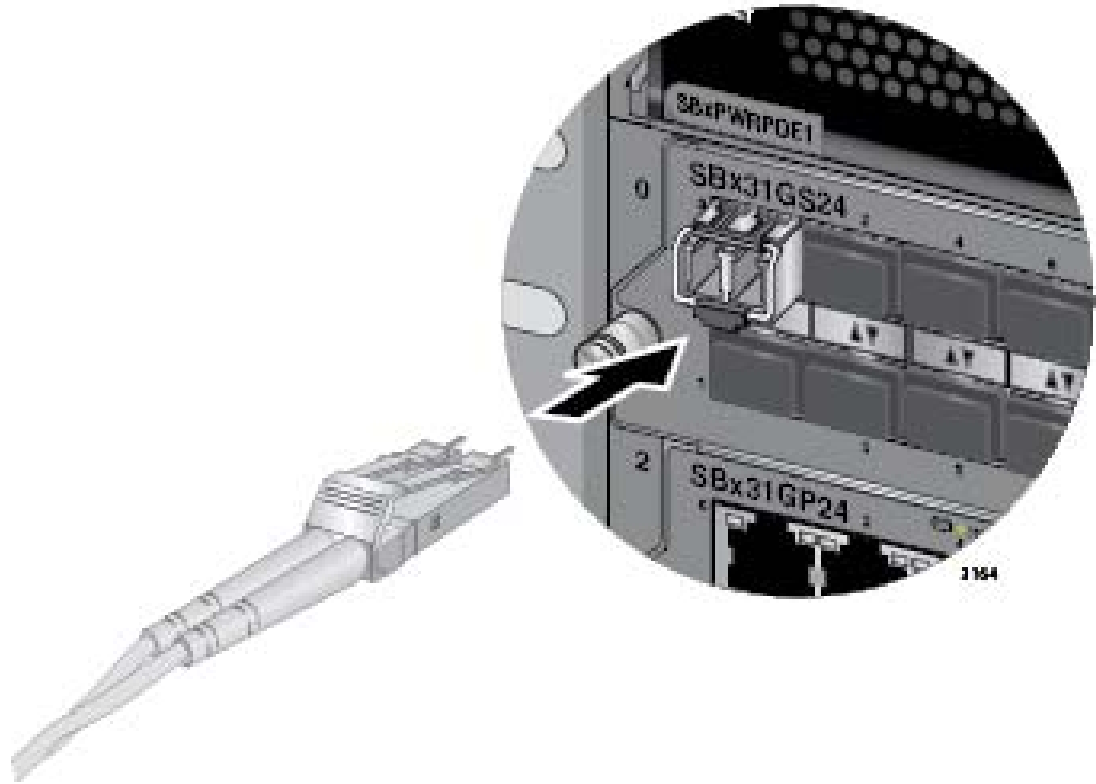

Figure 102. Attaching a Fiber Optic Cable to a Transceiver
6. Connect the fiber optic cable to the port on the transceiver, as shown in Figure 102 on page 167. The connector should snap into the port.